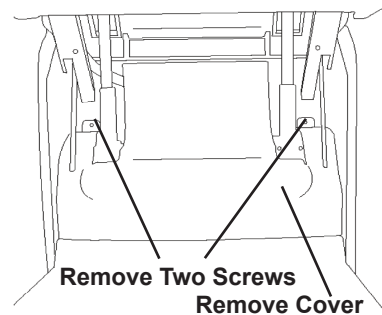

Figure 42.
2. Remove shroud below seat to expose actuators and control box. (See Figure 42.)